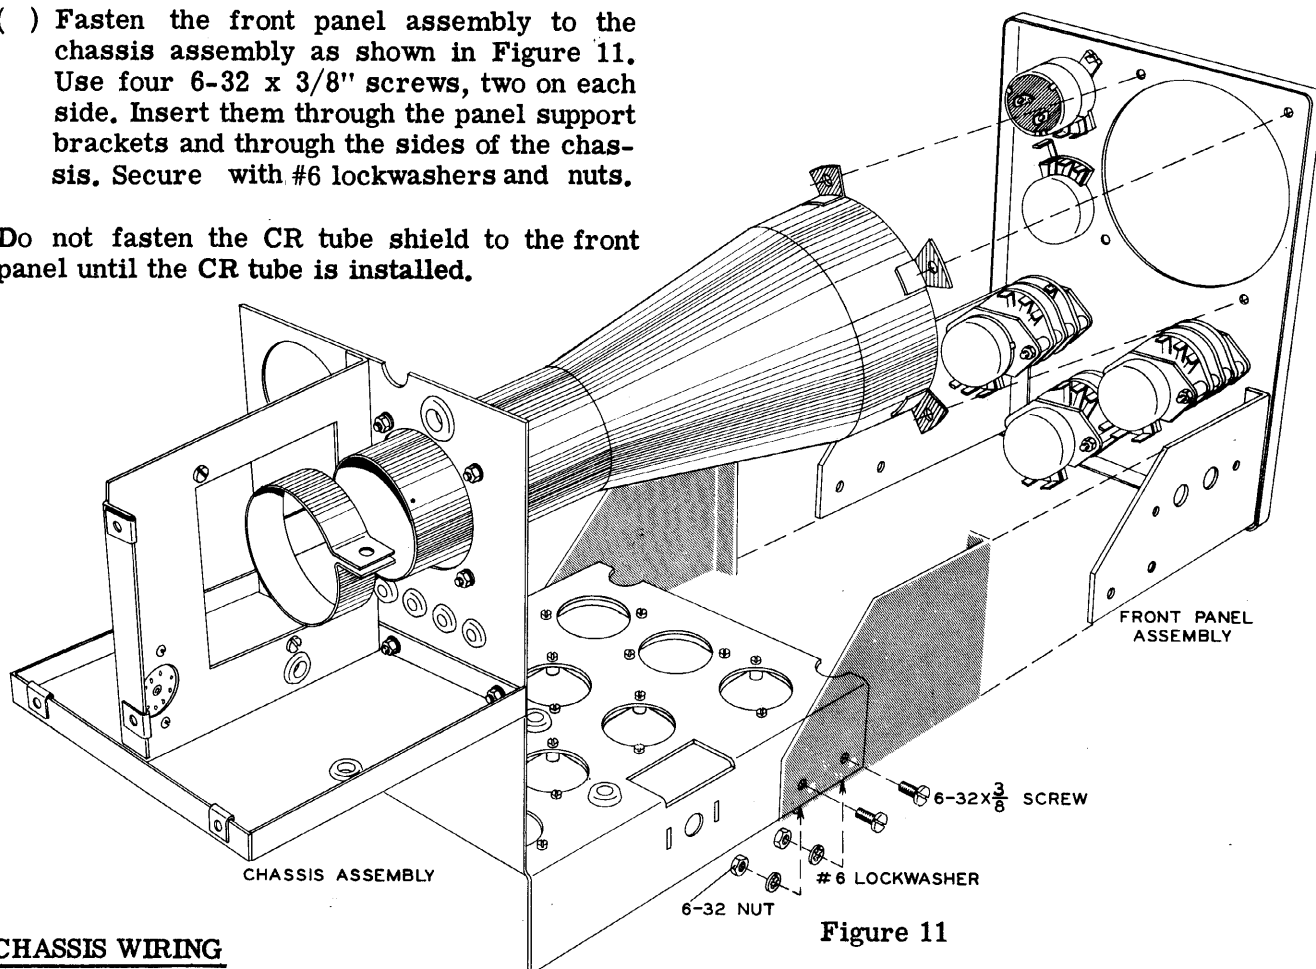

Figure 11
Refer to Figure 11 for the next step.
- ( ) Fasten the front panel assembly to the chassis assembly as shown in Figure 11. Use four 6-32 x 3/8" screws, two on each side. Insert them through the panel support brackets and through the sides of the chassis. Secure with #6 lockwashers and nuts.